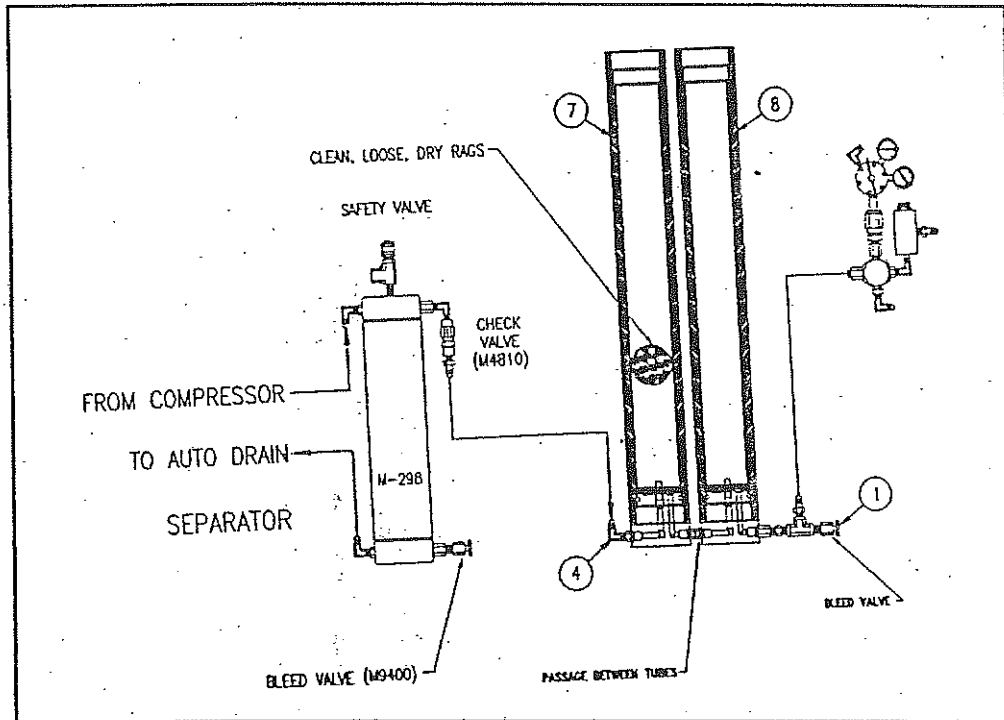

FIGURE 5-9 DRYING TECHNIQUE
10. Form a loose "wad" of clean, dry rags and push them in the first chamber (7) as shown in Figure 5-9.